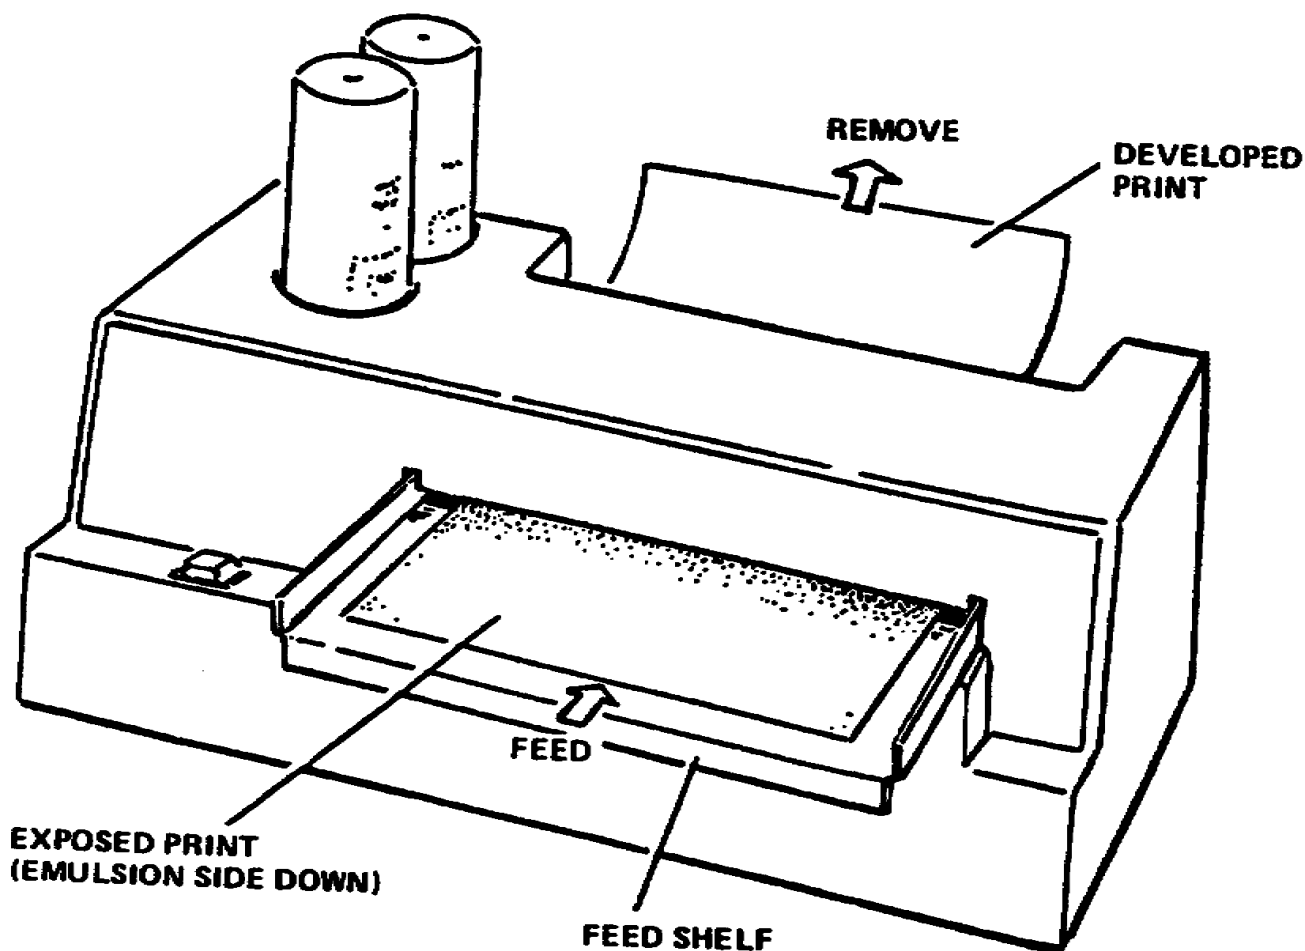

Figure 1-18. Processor complete
(8) With the bottles held above the processor, turn them upside down and quickly insert them into the openings provided in the processor. Be sure each chemical bottle is inserted into its proper hole; i.e., the activator in the opening marked, "Activator," and the bottle of stabilizer inserted into the rear opening marked "Stabilizer" (fig 1-18). Ensure both bottles are seated firmly in the tray. When the processor is first started, slightly less than one quart of activator and slightly more than one quart of stabilizer are required to fill the trays. When a bottle is empty, install a full one.
b. Processing paper. To start the processor, press the start-stop button (fig 1-18). When the light in the button is lit, the processor is on. Whenever the processor is used intermittently, be sure to run the drive mechanism for several seconds before processing the first sheet of paper. If the processor is to be used frequently, the drive can be left running.